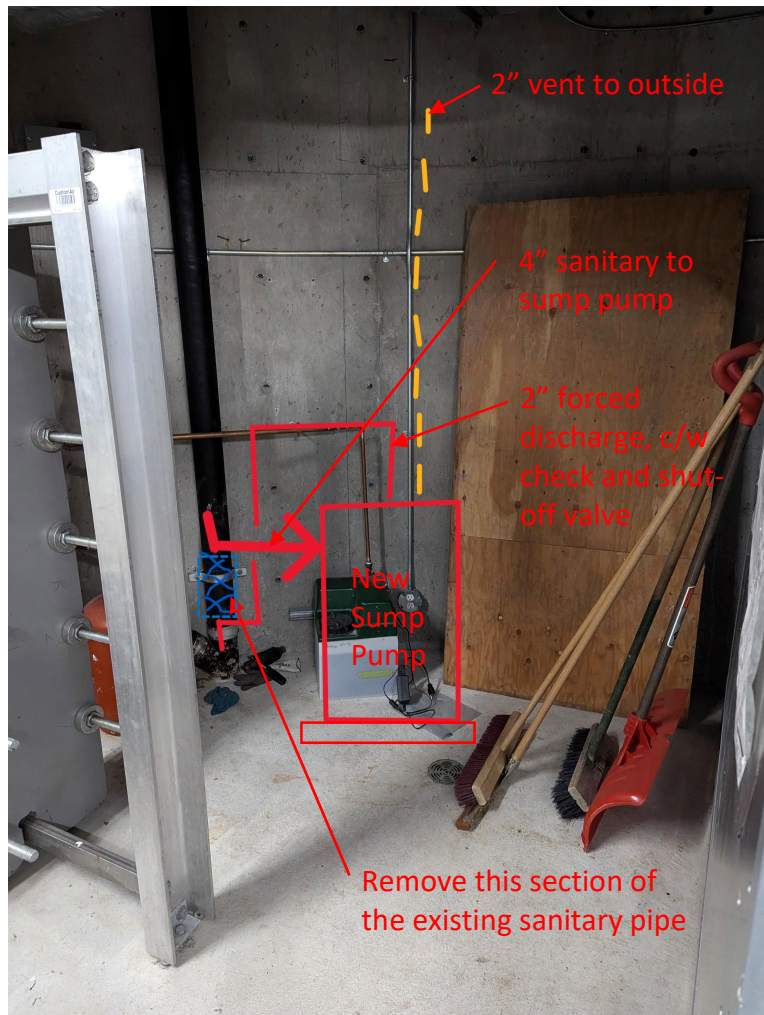

Figure 3: New Sump Pump Installation Concept Sketch
1. Install Duplex Sump Pump mounted on the ground in the mechanical room, complete with a housekeeping pad. Refer to the concept sketch in Figure 3.